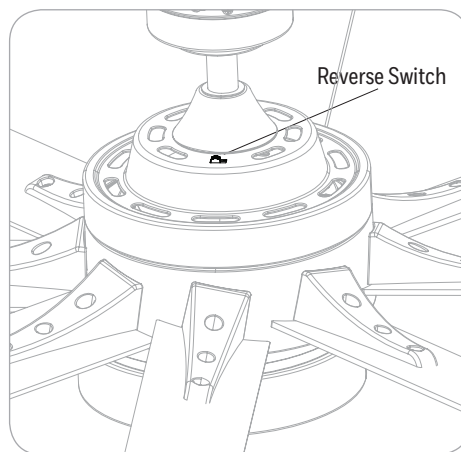

Figure 6.2
- Use the reverse switch located on the top of the motor assembly to optimize your fan for seasonal performance. **In warmer weather**, push the reverse switch left, which will result in downward airflow creating a wind chill effect. **In cooler weather**, push the reverse switch right and the fan to low, which will result in upward airflow that can help move stagnant, hot air off the ceiling area (Figure 6.2).